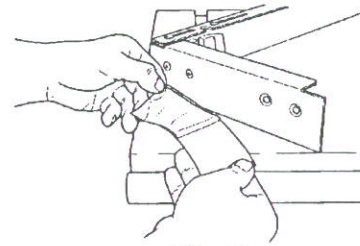

Fig.8
7. Leave the assembled Miter Pro on the worktable as before. Peel the backing from the short non-slip surface (12), as in Fig.8.